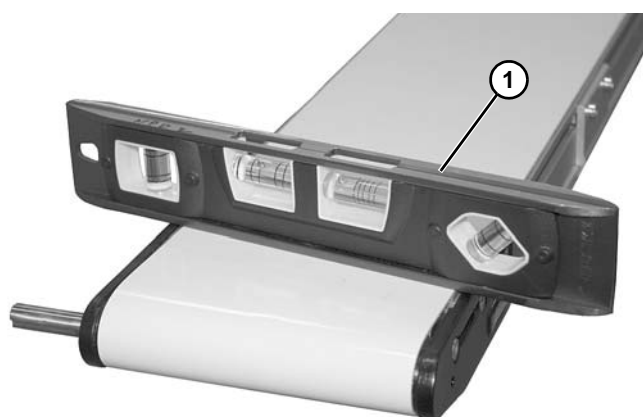

Figure 7
Conveyor *MUST* be mounted straight, flat, and level within confines of conveyor. Use a level (Figure 7, item 1) for setup.